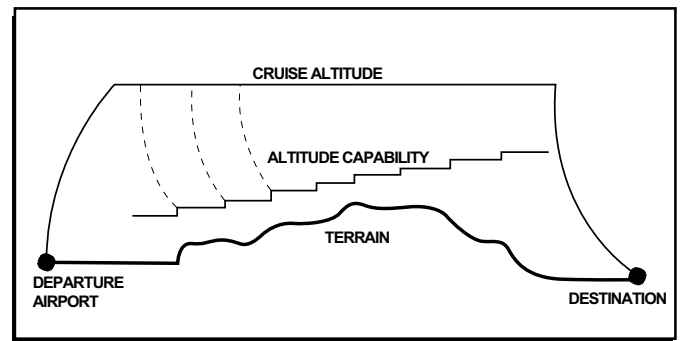

Figure 1
1. The computer program determines altitude capability for an engine loss (based on a given weight with anti-ice on) and ensures that 1000' of terrain clearance exists at the single engine level-off altitude. If that margin exists, no further checks are necessary. If the clearance is less than 1000', the program proceeds to the next phase (Figure 1).